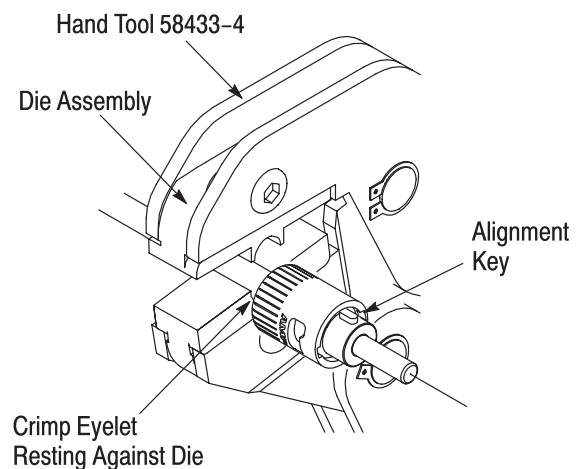

Figure 6
1. Position the connector in the die assembly as shown in Figure 6.